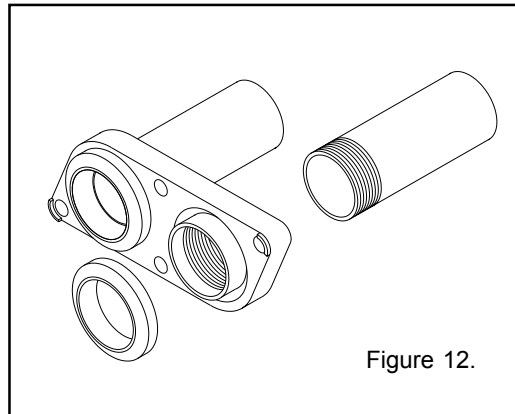

Figure 12.
1. Insert 2 in. rubber gaskets over 2 in. gasket retainer rings molded to bottom of Quick-Flange II; see Figure 12.